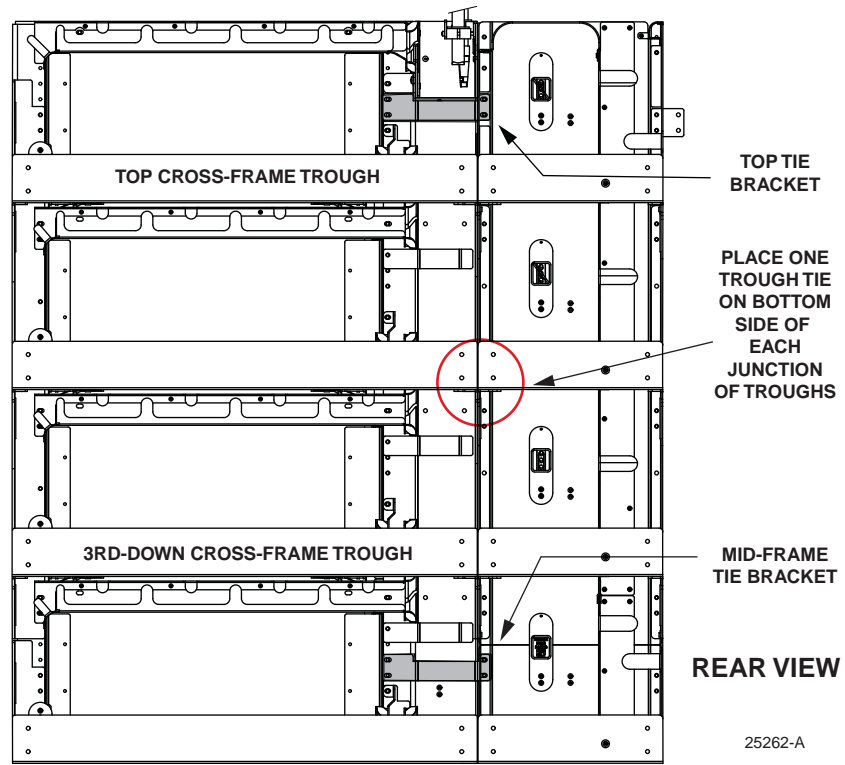
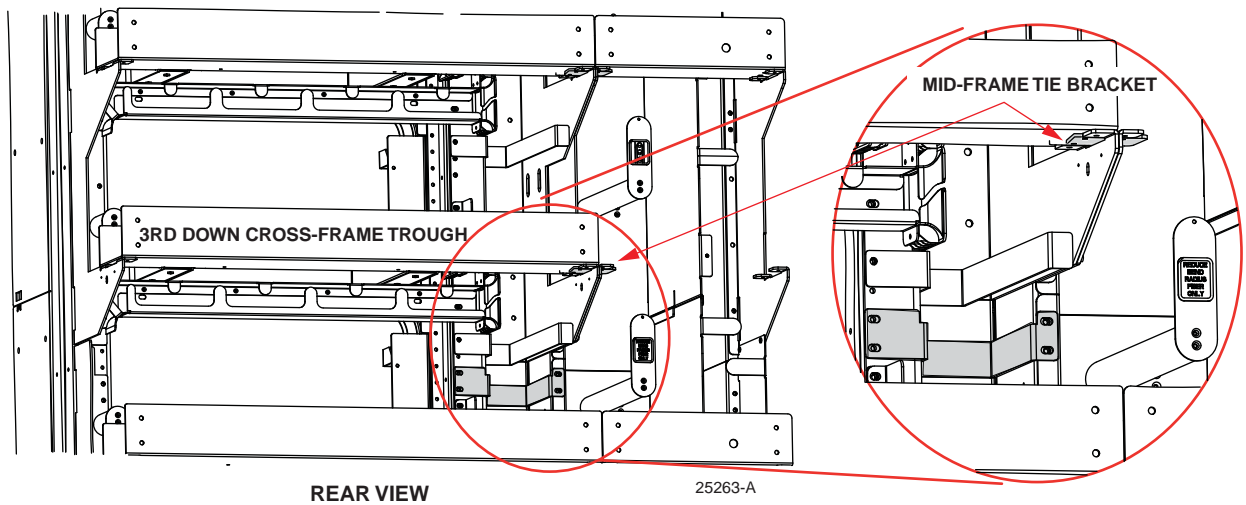

Figure 30. Rear View of Bracket Locations
Figure 31. Rear View With Frame Tilted to Show Brackets Under Trough
► **Note:** Refer also to the detailed views in Figure 30 and Figure 31.